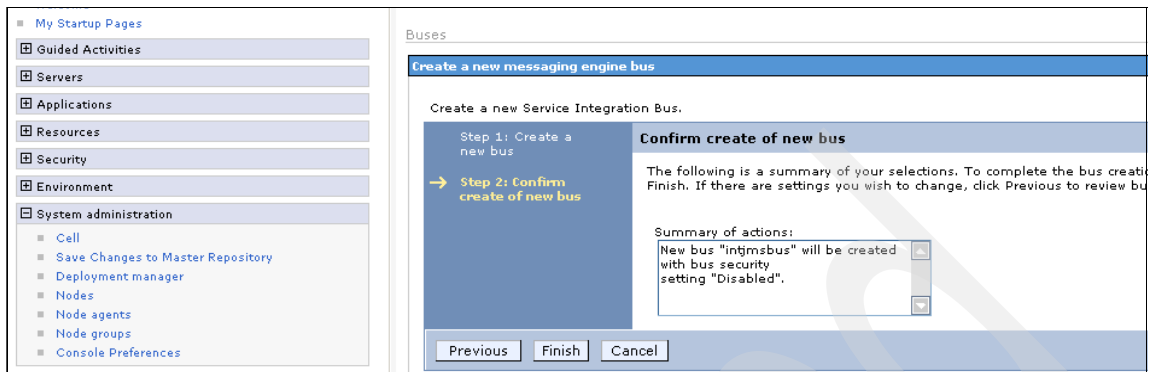

Figure A-23 Finish
6. Click **Finish** (see Figure A-23).